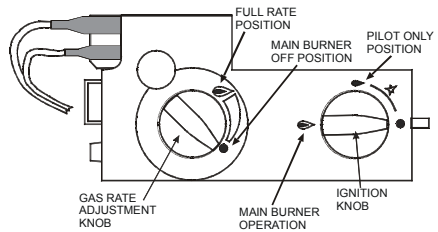

Figure 10 - Gas Valve
5. Turn the IGNITION KNOB anticlockwise to the Main Burner Operation position as shown in Figure 10.